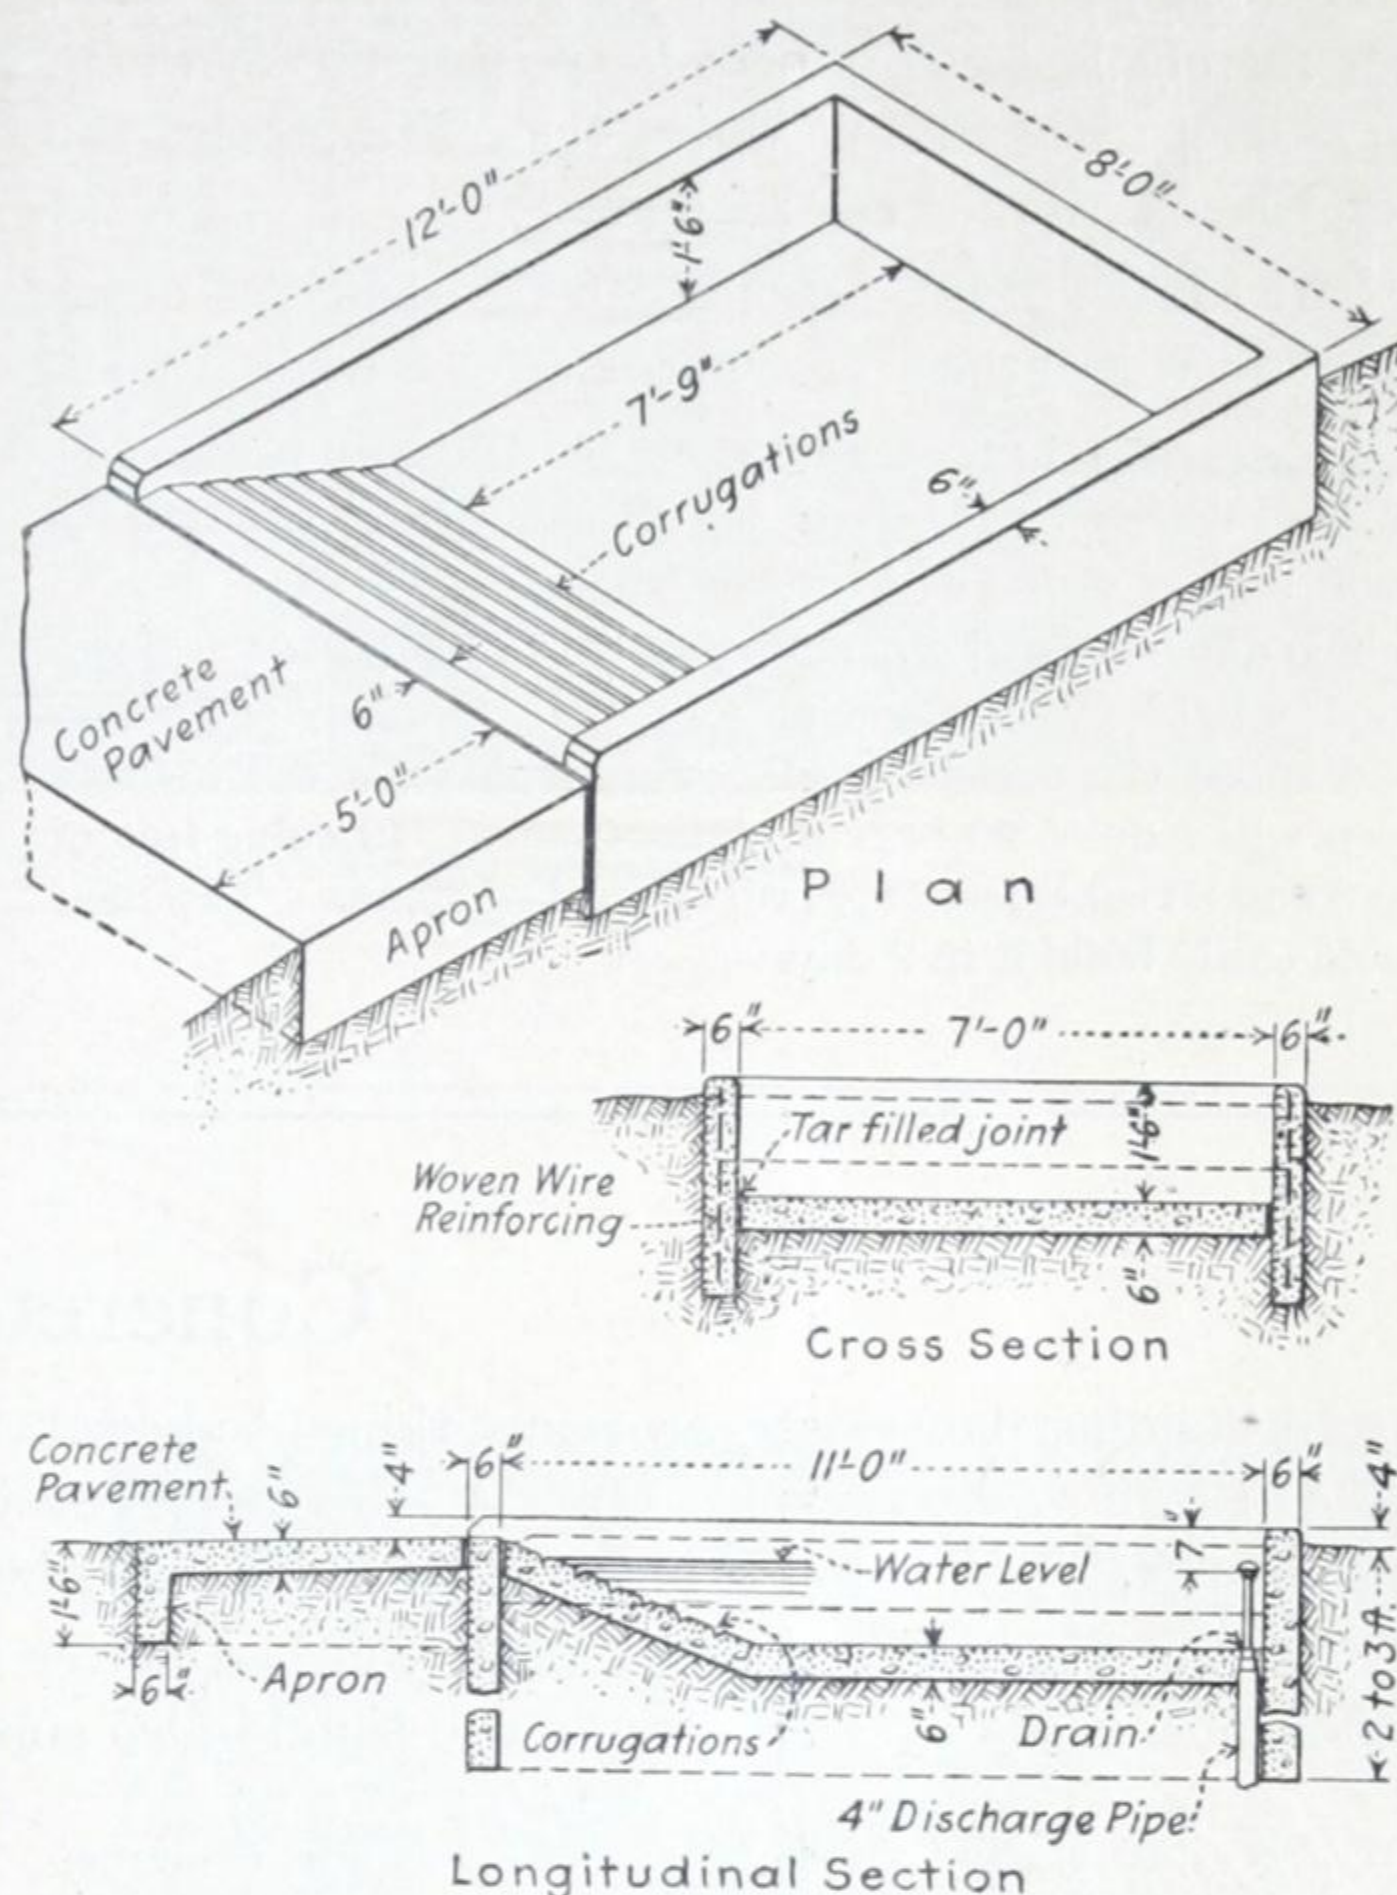

Fig. 132—Details of hog wallow showing dimensions, corrugated incline, concrete pavement and apron.
**Construction**—The hog wallow, shown in Figure 132, is 8 feet wide by 12 feet long outside, and 18 inches deep. Give one end a slope with a corrugated surface so that the hogs can climb out easily; or you can fasten a couple of planks together, lay them up the slope and put cleats across them a few inches apart to give the hogs a foothold. A pavement is laid in front of the incline, so the hogs will not form a mudhole when they come out. The plan provides for a drain and 4-inch discharge pipe, so that the wallow can be drained and cleaned out. A wooden gate across the outlet, as in the bottom part of Figure 132 will keep the water in.
**Quantities**—The tank shown in Figure 132, with walls 3 feet deep, will require 27 bags of Atlas Cement, 54 cubic feet of sand, and 108 cubic feet of gravel or crushed stone.